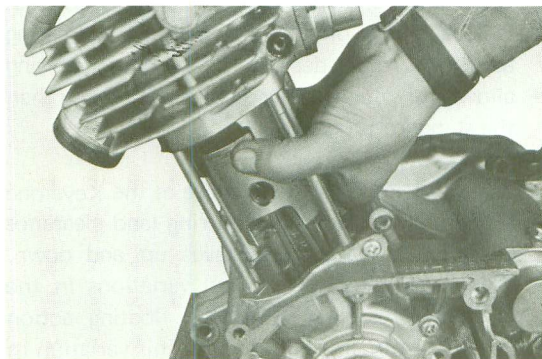

Fig. 4-3-9
- b. When installing the cylinder over the piston, squeeze the piston rings into their grooves (their end gaps should close on the knock pin) so they will not catch and break on the bottom of the cylinder. (Fig. 4-3-9)